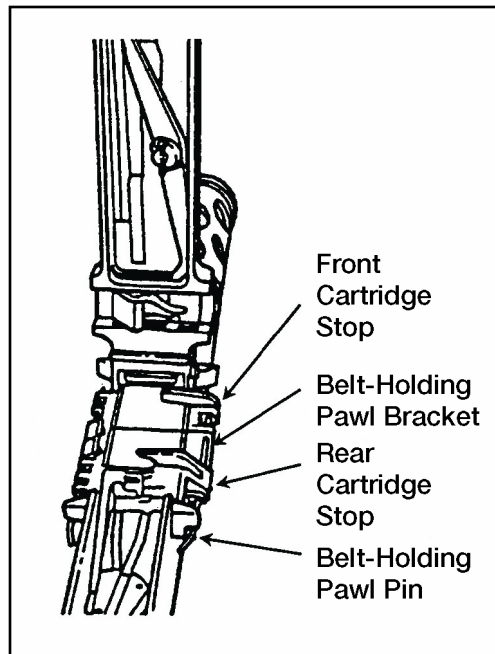

Figure 071-022-0001-24. Installation of the rear cartridge stop assembly and front cartridge stop
(1) Determine the direction of feed. (figure 071-022-0001-24 shows left-hand feed.) Place the right-hand rear cartridge stop assembly and front cartridge stop on the belt-holding pawl bracket.